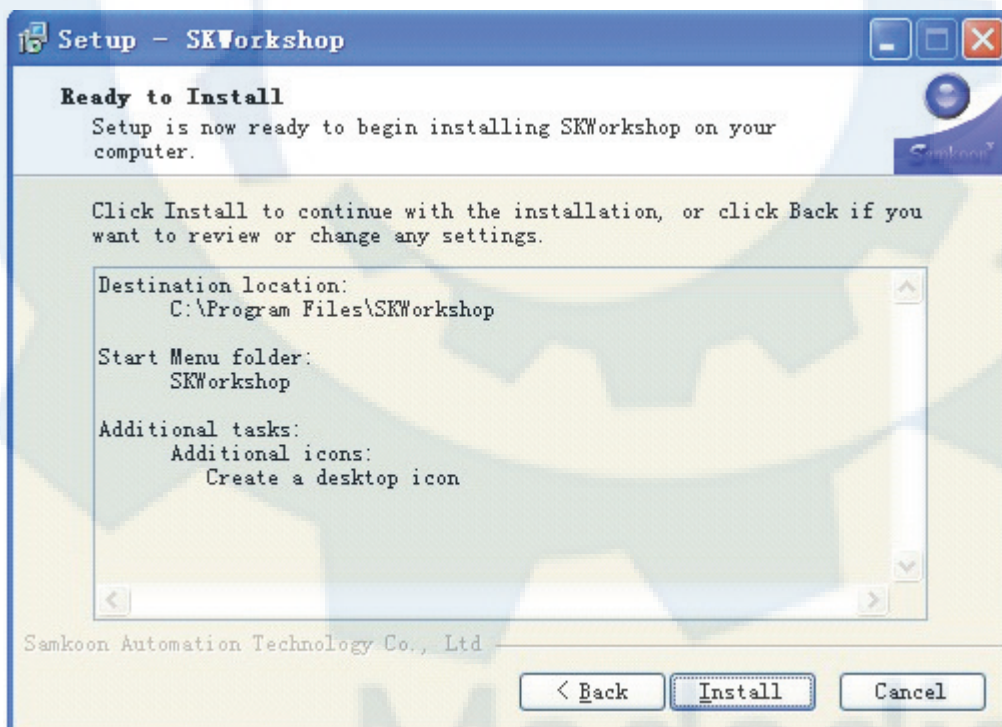

Figure 2-9: Installation confirmation dialog
- Then a confirmation dialog will appear, showing the installation directory, installation folder and whether to create a desktop shortcut chosen by the user. Click Next, as shown in Figure 2-9.